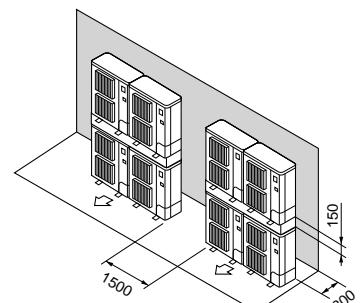

Fig. 2-15
⑦ Stacked unit arrangement (Fig. 2-15)